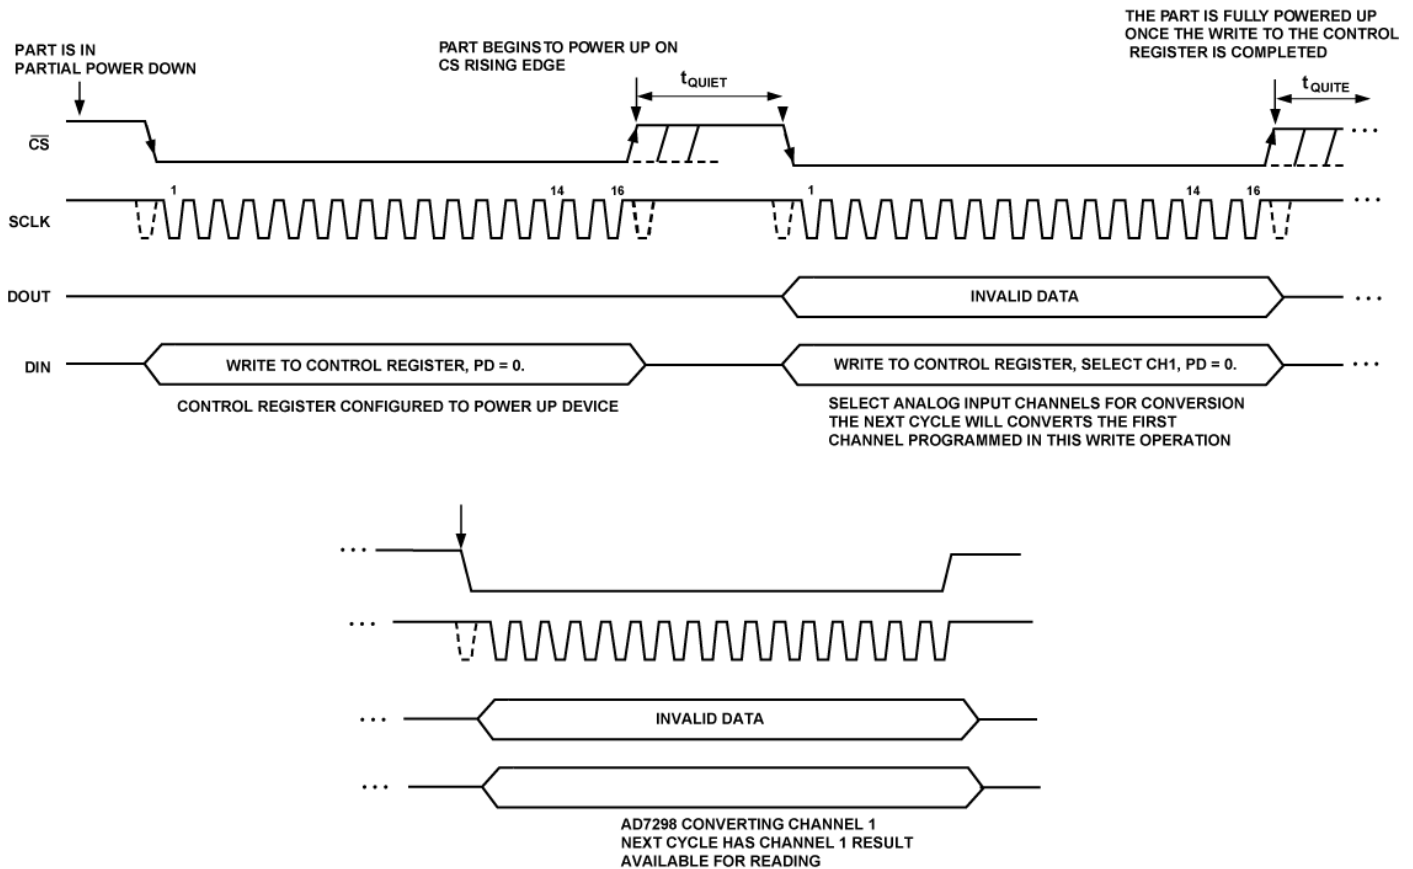

Figure 7. Partial Power Down Mode of Operation
The AD7298 remains in partial power-down until the power-down bit, PD, in the control register is changed to a logic level zero (0). The AD7298 begins powering up on the rising edge of \overline{CS} following the write to the control register disabling the power-down bit. Once T_{QUITE} has elapsed, a full 16-SCLK write to the control register must be completed to update its content with the desired channel configuration for the subsequent \overline{CS} conversion. A valid conversion is then initiated on the next \overline{CS} falling edge. Since the AD7298 has once cycle latency, the first conversion result after exiting partial power-down mode is available in the fourth serial transfer as shown in Figure 7; 1st cycle to update PD bit, 2nd cycle to update configuration and Channel ID bits, 3rd to complete conversion, 4th access D_{OUT} valid result. The use of this mode enables a reduction in the overall power consumption of the device.